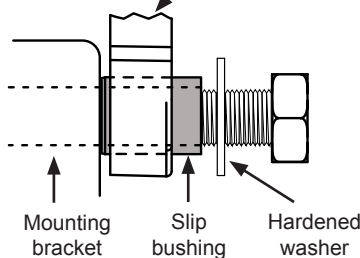

Figure 1: C625 Alternator Connections
2. Install pulley and furnished disc spring washer with beveled side facing pulley. Torque pulley nut to 163 Nm/120 lb. ft. See Figure 1.
7. Connect alternator-to-regulator harness to regulator as shown in Figure 1.